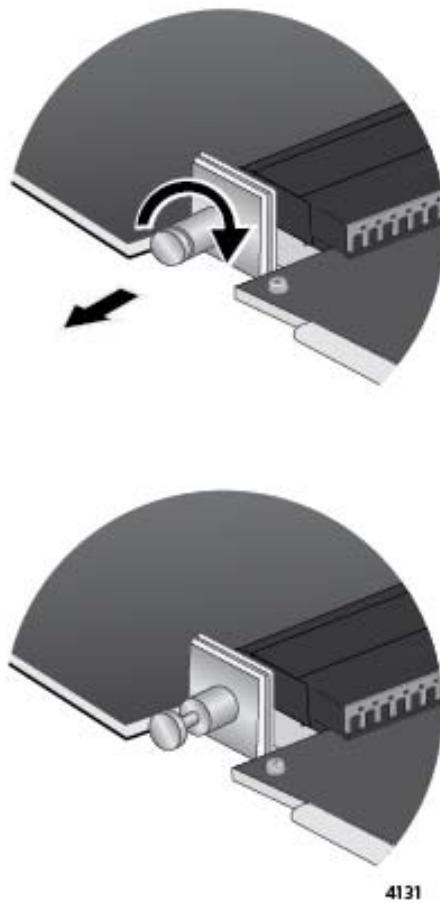

Figure 183. Retracting the Retaining Pin on the AT-SBx81XLEM Line Card
4. With your thumb and forefinger, pull out the retaining pin on the side of the line card and turn it clockwise one quarter turn until it remains in the retracted position. Refer to Figure 183.